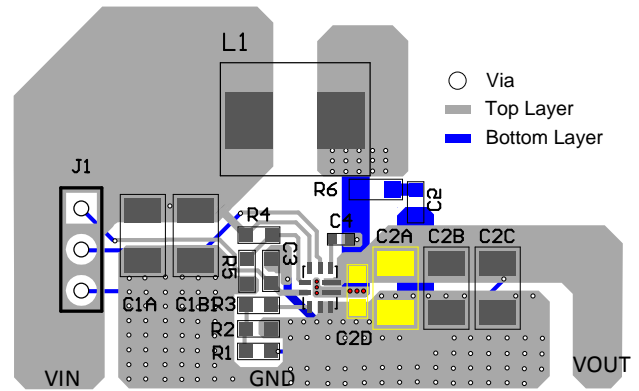

Figure 3: Recommended PCB Layout for QFN-10 Package
Efficient PCB layout is critical for high-frequency switching power supplies. Poor layout can result in reduced performance, excessive electromagnetic interference (EMI), resistive loss, and system instability. For the best results, refer to Figure 3 and Figure 4 and follow the guidelines below, unless otherwise noted:
1. Place the output capacitor (C2A, C2B, and C2C) as close to V_{OUT} and GND as possible. Place a 0.1 μ F capacitor close to the IC (C2D) to reduce parasitic inductance (shown with the yellow components in Figure 3 and Figure 4).
2. For the QFN package, connect the SW pin underneath the IC using vias (shown with the red components in Figure 3). For the TSOT package, connect the SW pin on the top PCB layer using the copper that is under the IC (see Figure 4).
3. If V_{OUT_SET} is above 15V, it is recommended to connect the RC snubber to SW and GND (shown with R6 and C5 in Figure 3 and Figure 4).